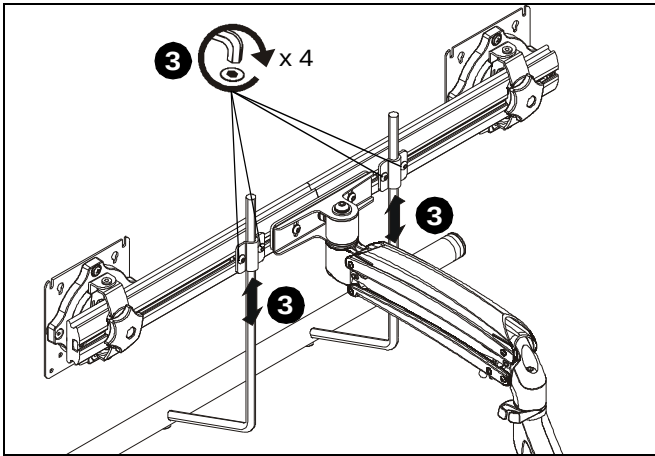

Figure 13
- Position handle (J2) at desired height and secure by tightening button head cap screws attaching handle brackets to array. (See Figure 13)